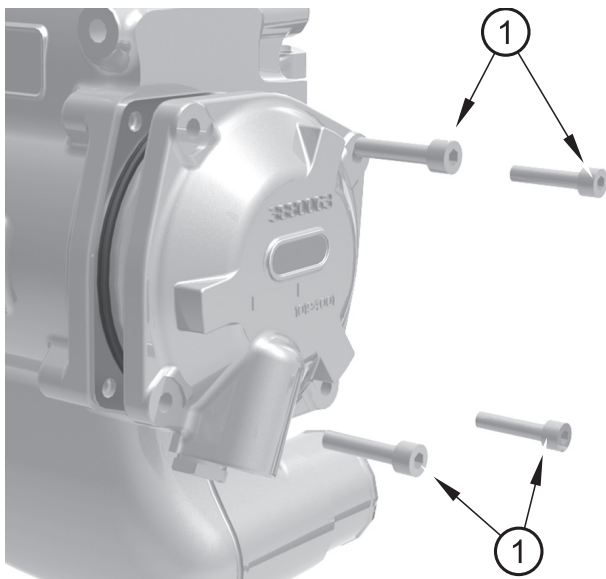

Figure 18
7. Remove the endcap by undoing the bolts (figure 18 item 1).